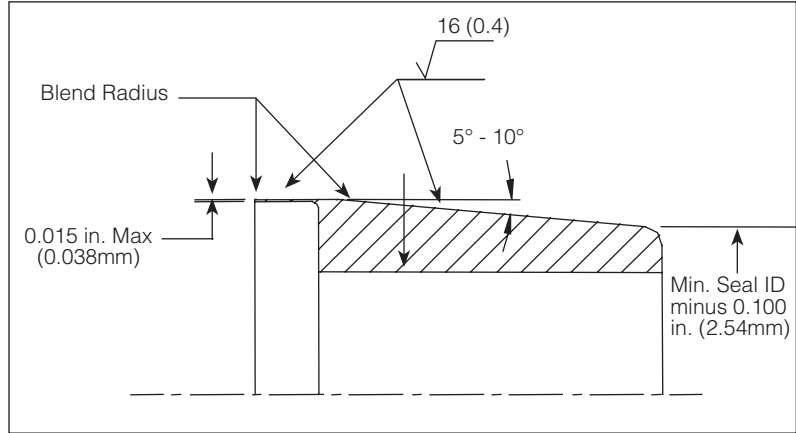

Figure 2-17. Expanding mandrel
3. Install the expanding mandrel onto the piston (Figure 2-17).